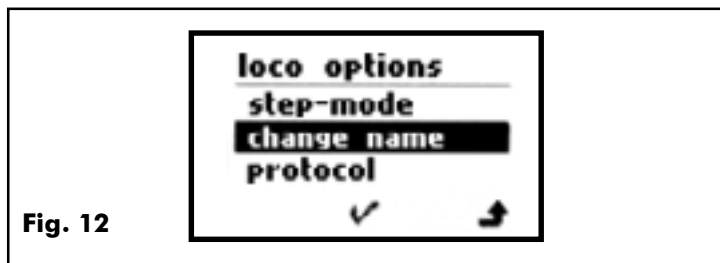

Fig. 12
- Press the left selection button. Now you are in the menu „Setting Engines“ (Fig. 12)